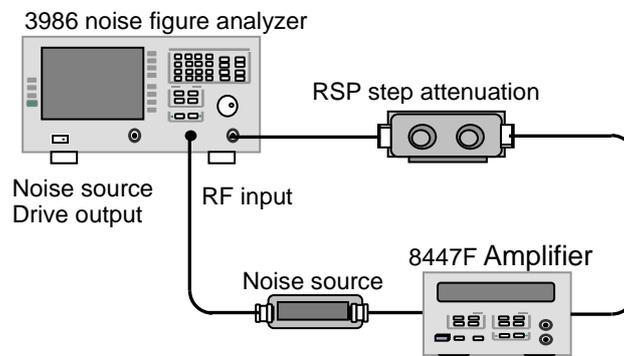

Figure 8.6 Test Block Diagram of Gain Measurement Range and Measurement Uncertainty
Step 1. Connect the test system as shown in Figure 8.6 and warm it up for 30min.